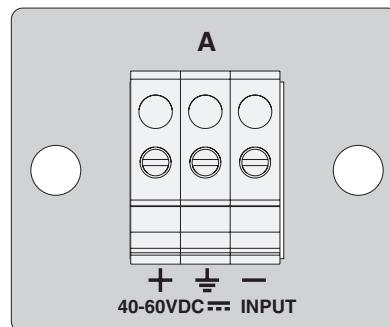

Figure 52 DC Terminal Block
2. Starting from the left side of a terminal block, identify the **positive**, **power supply ground** and **negative** terminals using the symbols below the terminal block, as shown in Figure 52.